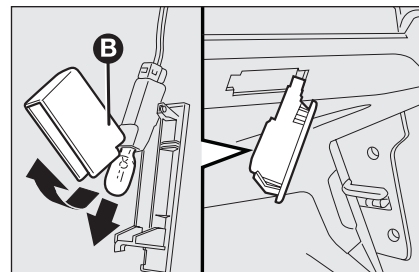

fig. 43
- ☐ open the protection cover **B**-fig. 43 and replace the snap-fitted bulb;